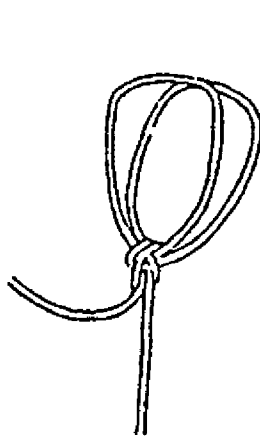

Fig. 3-52-2
- (b) Make a bowline. Place both of your legs into the loops so that the loops come up high on the thigh and the knot sits just below belt level, and adjust the size of the loops. When tying for a person being rescued, adjust the loops to the size of the person's body. (Fig. 3-52-2)